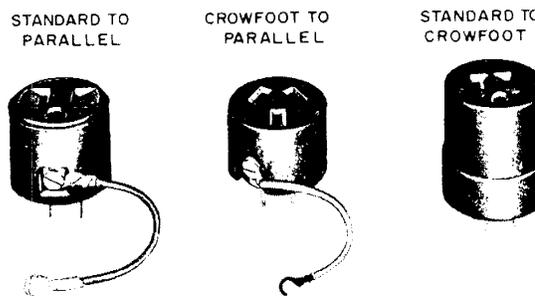

Fig. 1 — Adapters
4.01 The adapters shown in Fig. 1 permit connections when the outlet receptacle is not the same type as the plug.